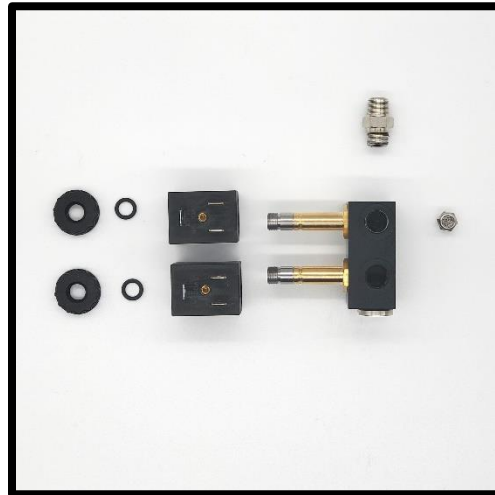

Figure 2
- 1-B) Open the ARB Pressure Control Kit and remove the valve assembly. Disassemble as shown in **Figure 2**. Loosen the cap on top of each solenoid and take note of the O-ring under each cap. Be careful not to damage them as you slide the solenoids off the posts. Each solenoid can be interchanged between the posts (they are identical), but maintain orientation (i.e., the single